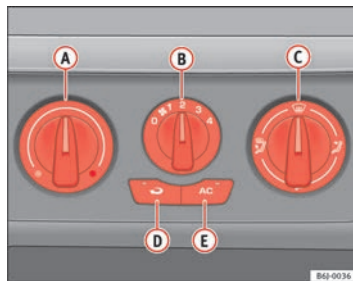

Fig. 99 Air conditioning controls on the dash panel
- Using the controls ⇒ fig. 99 **A** and **C** and with the switch **B** you can adjust the temperature, the air distribution and the blower speed.